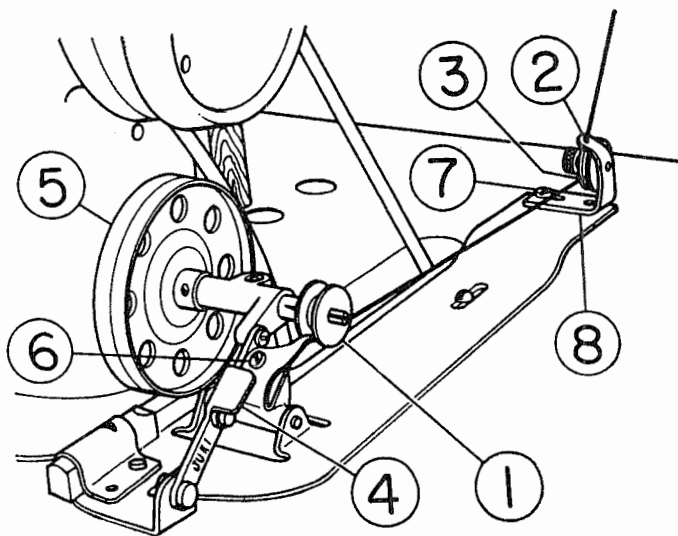

Fig. 2.
Set the bobbin thread winder on the table with screws as shown in Fig. 2. When the trip latch ④ is knocked down, the bobbin winder ⑤